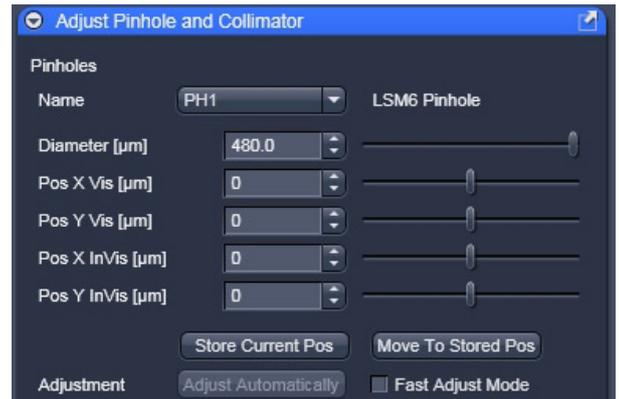

Fig. 5-117 Manual pinhole adjustment
- Click the LSM **Continuous** action button to start a continuous scan. Optimize the pinhole position in X, Y and Z (Z only for PH1) relative to the PMT using the **Position X [μm]**, **Position Y [μm]** and **Position Z [μm]** sliders to maximum image brightness (see Fig. 5-117).